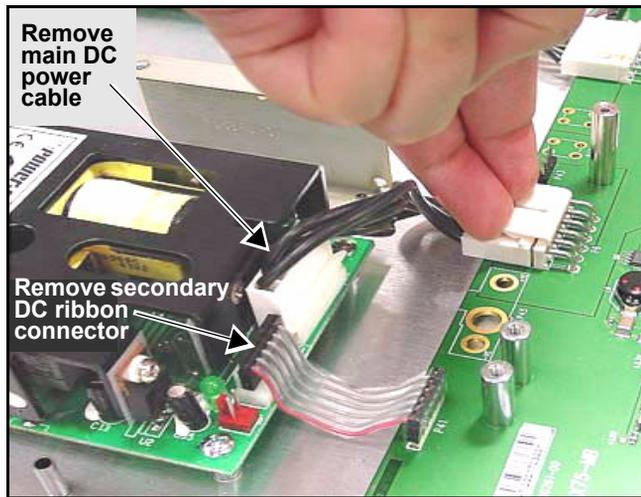

Figure C-26. Removing the DC and Ribbon Cables
3. Remove the main DC power cable and secondary DC ribbon cable that connect the power supply. (See Figure C-26.)